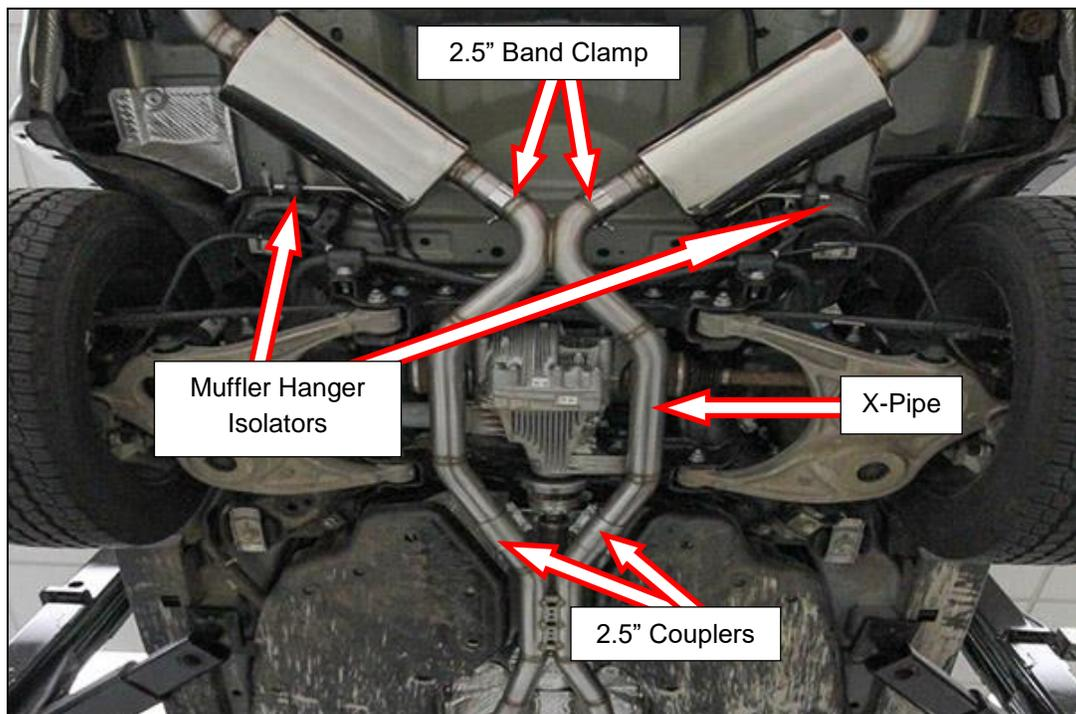

Figure 4
2. Install the supplied 2.5" coupler on to the outlet of the resonator assemblies with the bolts to the inside and the nuts facing down (**Figure 4**).
3. Install the X-pipe to the resonator outlet pipes and slide the couplers on to the X-pipe inlet pipes. Align the couplers for a 50/50 split between the resonator pipes and the X-pipe (**Figure 4**). Tighten to allow for adjustment.
4. Install a supplied 2.5" band clamp on to the expanded inlet of the muffler assemblies, align the clamp with the bolts to the inside and the nuts facing down (**Figure 4**). Support the X-pipe while the mufflers are installed.